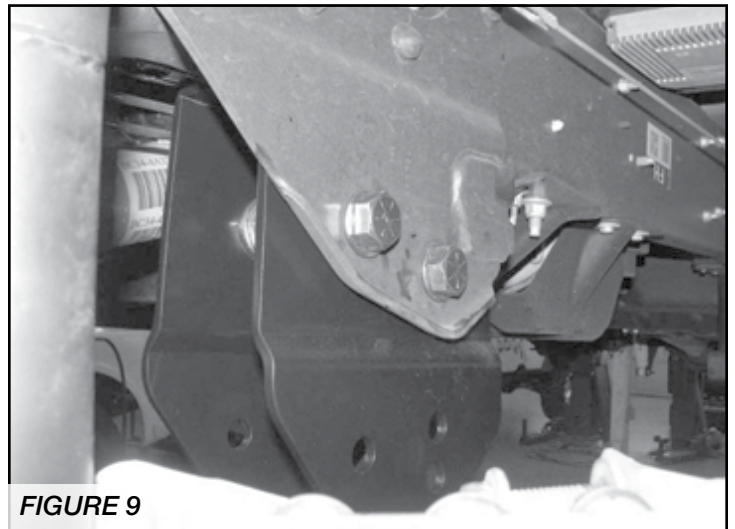

FIGURE 9
10. Locate FT30467BK radius arm drop brackets. Place the brackets into the factory radius arm brackets on the frame. Attach the bracket to the factory bracket using the supplied $\frac{3}{4}$ " x 1- $\frac{1}{2}$ " bolts, nuts and washers through the original holes in the frame. Torque bolts to 317 ft-lbs. **SEE FIGURE 9**